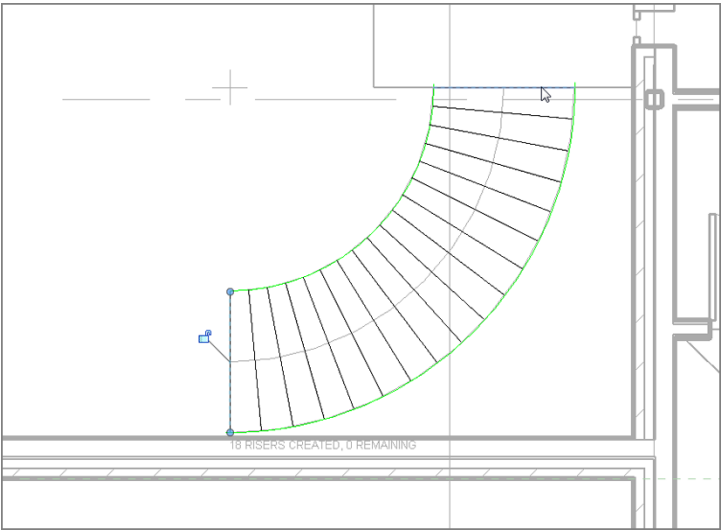

FIGURE 10.46: Picking the detail lines to lay over the stair components
6. Pick all of the lines you arrayed. This includes the bottom and the top lines (see Figure 10.46).